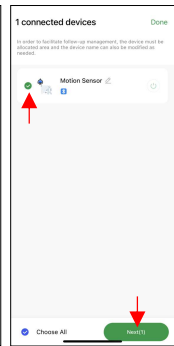

Figure 5
7. Select the sensor again and press Next to add the sensor to the Project. *See Figure 5.*